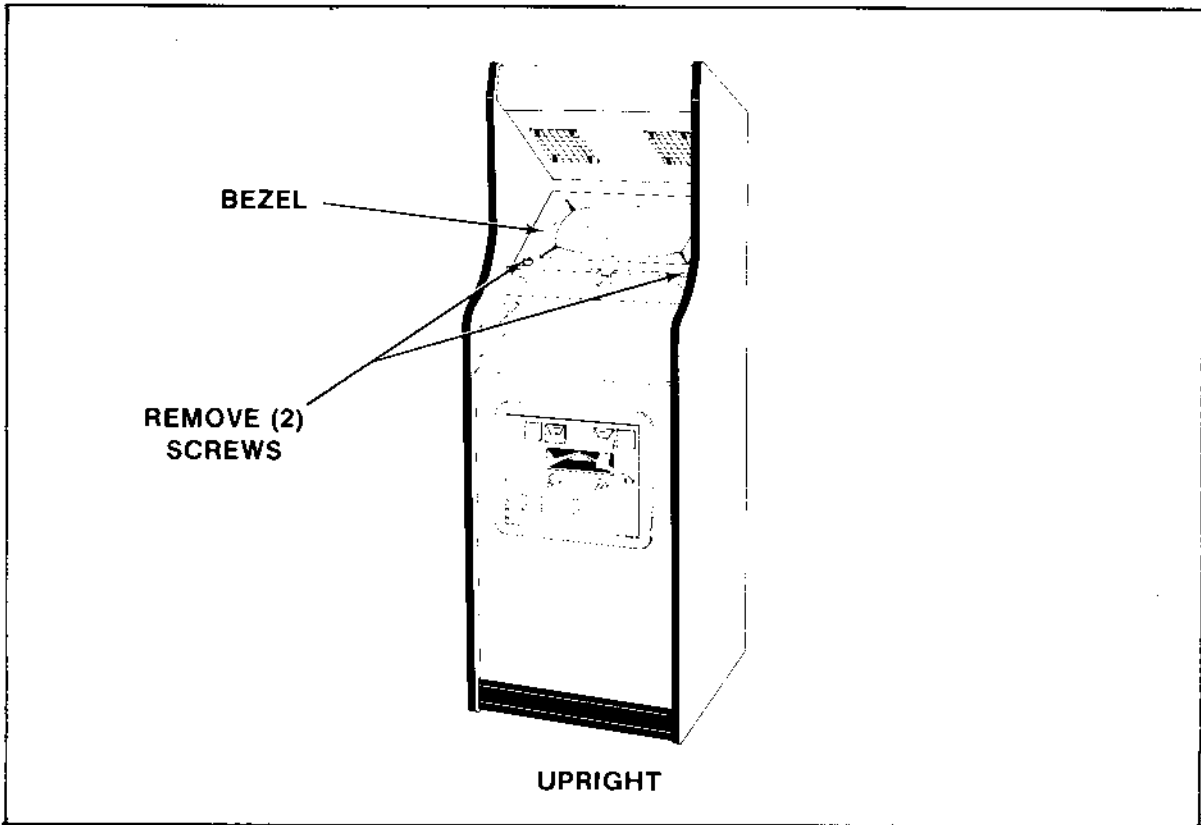

FIGURE 25
- e. Remove the screws which secure the T.V. bezel assembly, see Figure 25, and lift it out.